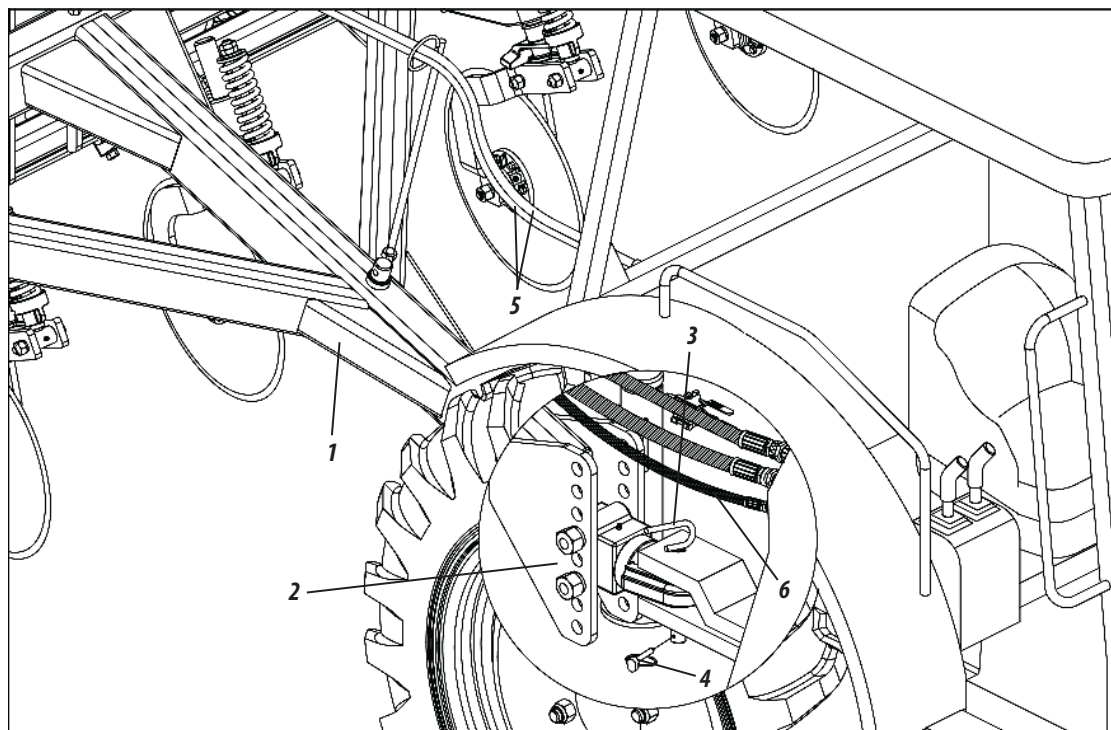

Figure 10
*Before connecting the propeller shaft (6), check its length in relation to the model of the tractor that will pull the seed drill. As appropriate, cut the shaft (6) according to instructions on pages 18 and 19.*
- 04** - Align the coupling header (1) of the seed drill in relation to the tractor through the adjustment (2) of the coupling shackle. Then, slowly move the tractor in reverse towards the seed drill, being aware to the application of brakes.
- 05** - Couple the drill to the tractor by fixing it through the hitch pin (3) and lock (4).
- 06** - Connect the hoses (5) to the quick hitch of the tractor.
- 07** - Finalize connecting the drain hose (6), as shown in Figure 10.